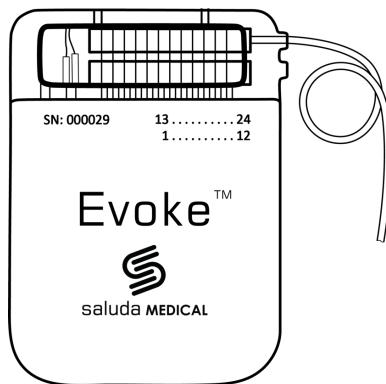

Figure 6.4: The lead exiting the CLS header with a strain relief loop.
9. Create a strain relief loop under the CLS (refer to Figure 6.4). If there is excess lead after this loop, coil the lead around the perimeter of the CLS or underneath.